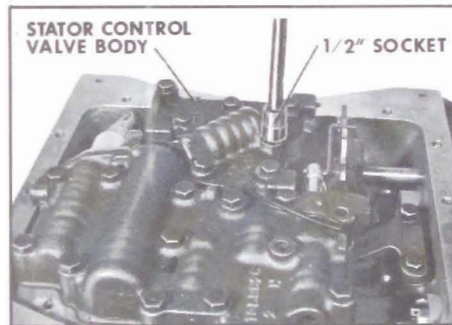

Figure 5-114
7. Remove seven (7) bolts retaining stator control valve body to transmission case using a 1/2" socket. Remove stator control valve body. See Figure 5-114.